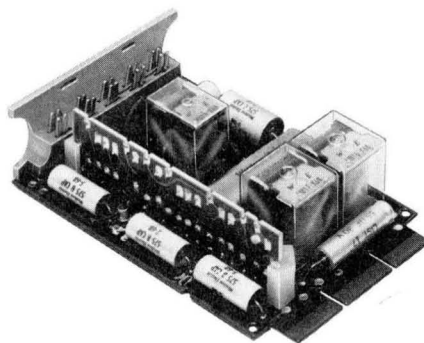

Fig. 1—Typical 4-Inch KTU
1.04 All circuit components on these KTUs are mounted in a plug-in printed wiring board, one end of which is equipped with contacts. A 4-inch board may have 18, 20, or 40 contacts; an 8-inch board will have 80 contacts (requiring two vertical 40-pin connectors). The circuit boards plug into mating connectors in key service units, panels, or apparatus mountings. Wiring from the connectors will be dedicated or nondedicated leads. Dedicated leads are those that normally appear on the same contacts of all KTUs, such as supply voltages and grounds, and are normally factory-wired. Nondedicated leads are those whose designation and function vary and are made available for installer connections. Fig. 1 and 2 show typical 4- and 8-inch KTUs.